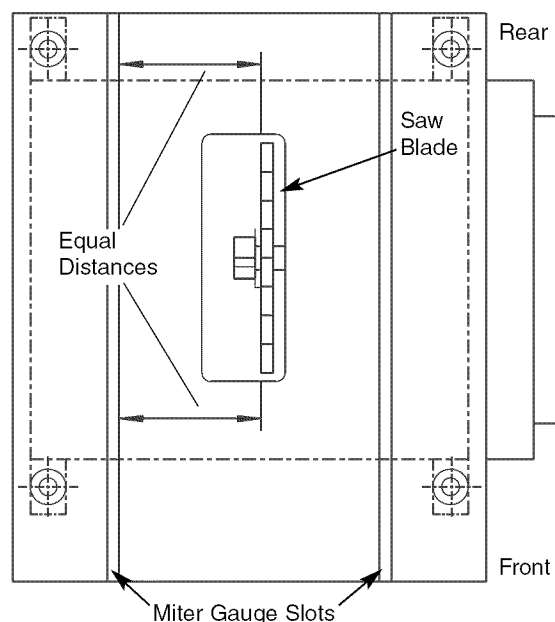

Figure 3 - Aligning Miter Slots to Blade
Refer to Figures 3, 7, 8, 9 and 10.
Refer to Figures 3 and 7.
- Gauge this tooth with the dowel rod. If the tooth is in the same position, relative to the miter gauge, the table is parallel with the blade. In short, the miter gauge slots must be parallel with the blade. This means that when measuring distance between blade and slot at the front and rear of the blade, the distances will be equal (see Figure 3).
- If an adjustment is necessary, proceed as follows: (Refer to Figures 3 and 7, page 7 and 18). Loosen the hex head bolts and lock washers (Fig. 7, Nos. 5, 9 and 10) to the table (Fig. 7, No. 12). Shift the table until a position is found where the saw blade is parallel to the miter gauge slots.